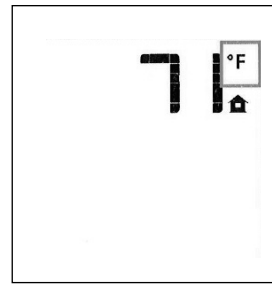

Figure 53. Room temperature readings
- With the transmitter in the OFF position, press the Thermostat Key and the Mode Key at the same time. The display screen will show the current room temperature cycling between Fahrenheit and Celsius indicators each time the keys are pressed simultaneously. See fig. 53.